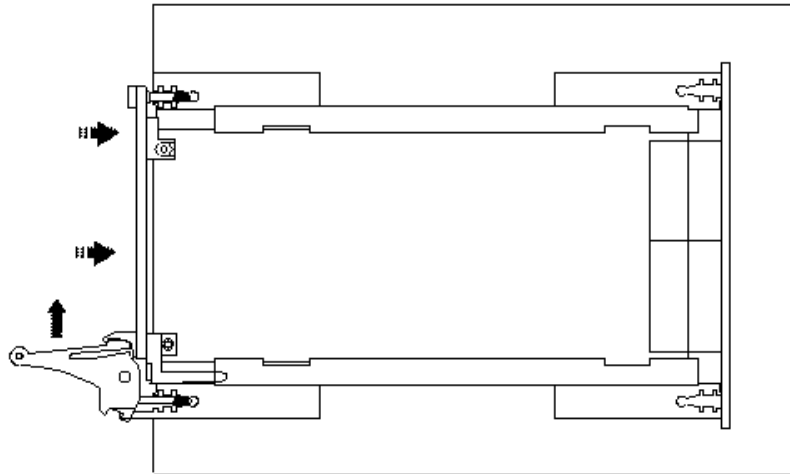

Figure 3-3: Ejector handles position after module insertion
6. After you feel resistance, push in the ejector handles as shown in Figure 3-3 to secure the module into the frame.